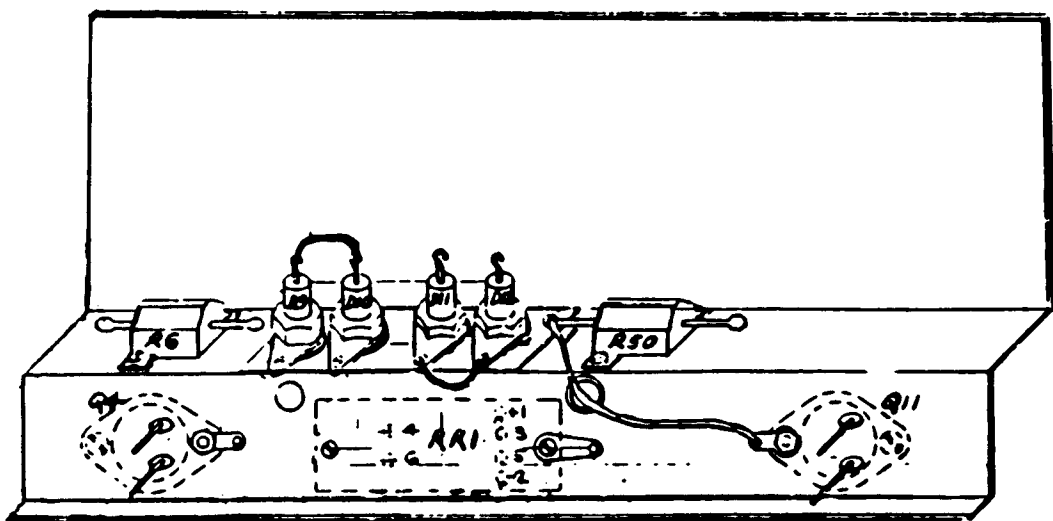
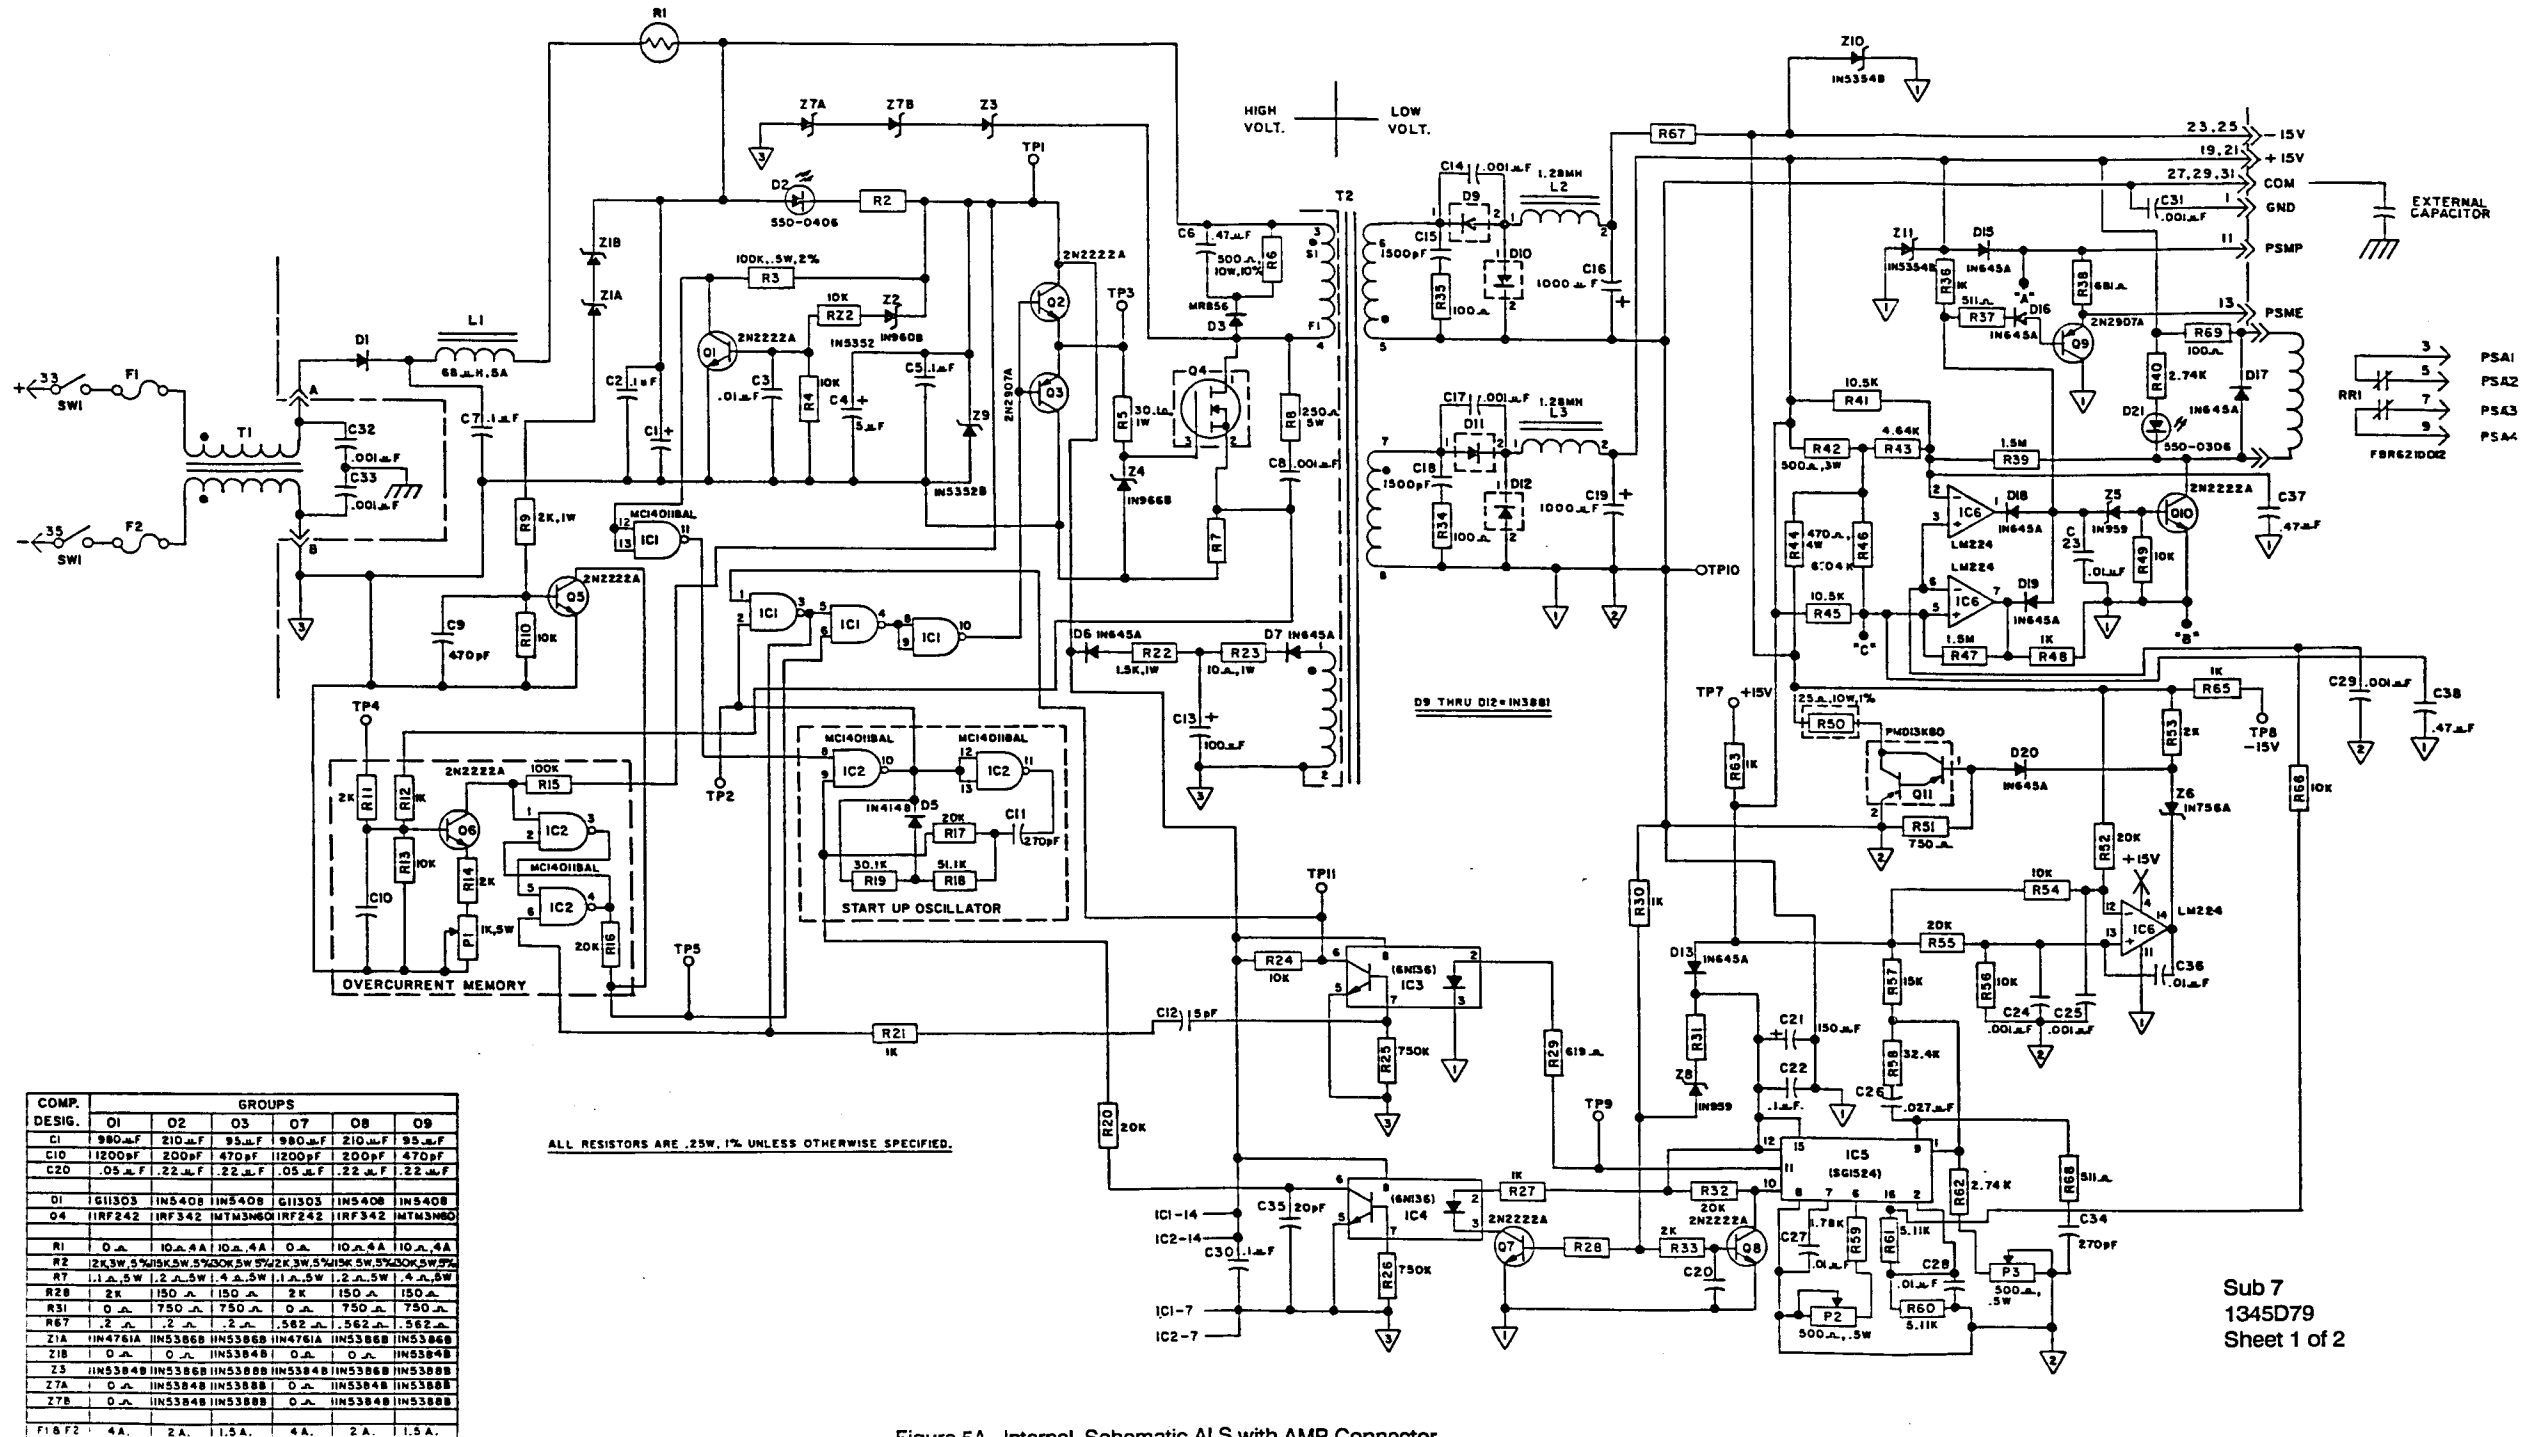

Figure 2. Location of Components not on PC Board
Figure 5A. Internal Schematic ALS with AMP Connector
- Working at a test bench, remove the cover and open any two leads from the MOSFET Q4, in order to separate the primary and secondary of the transformer (T2). (See Figure 2, bottom view; Q4 is the left-hand transistor when the case is open and the connector is to the right.) Refer to internal schematics (see Figures 5A, 5B or 6A, 6B).